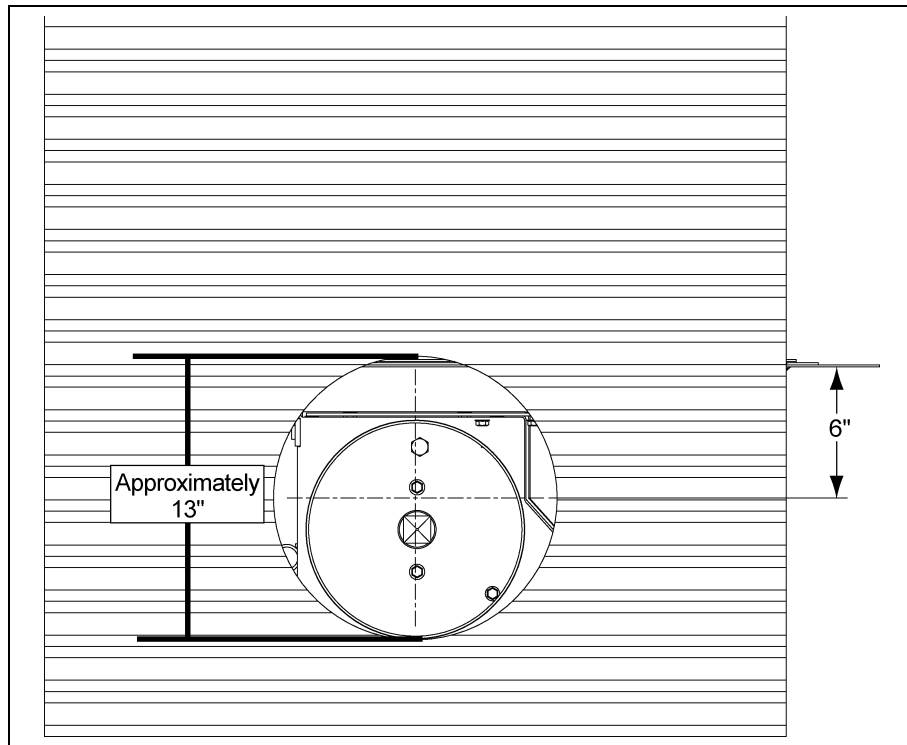
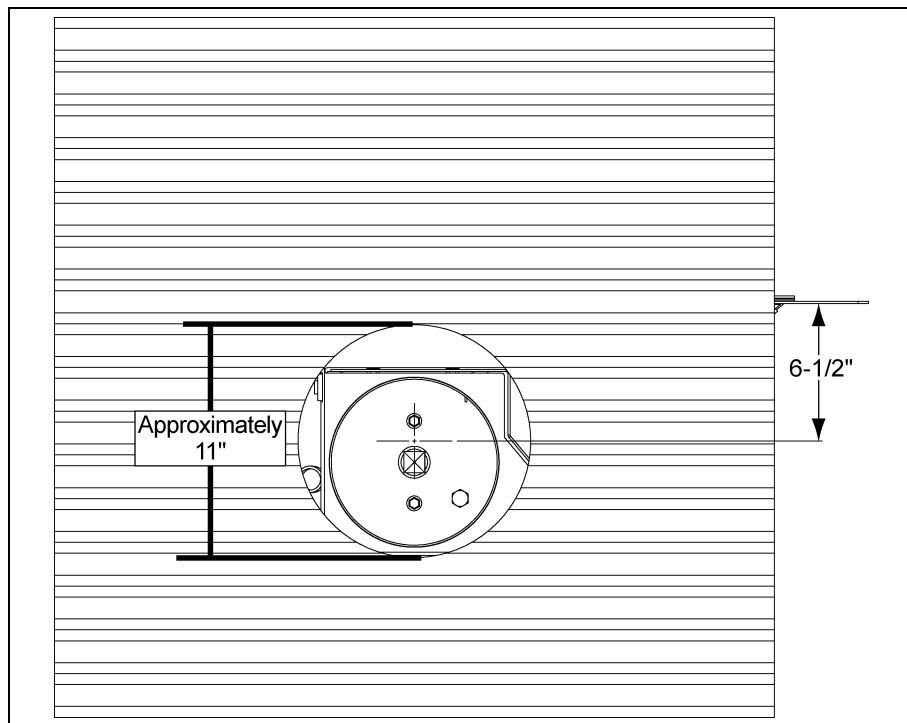
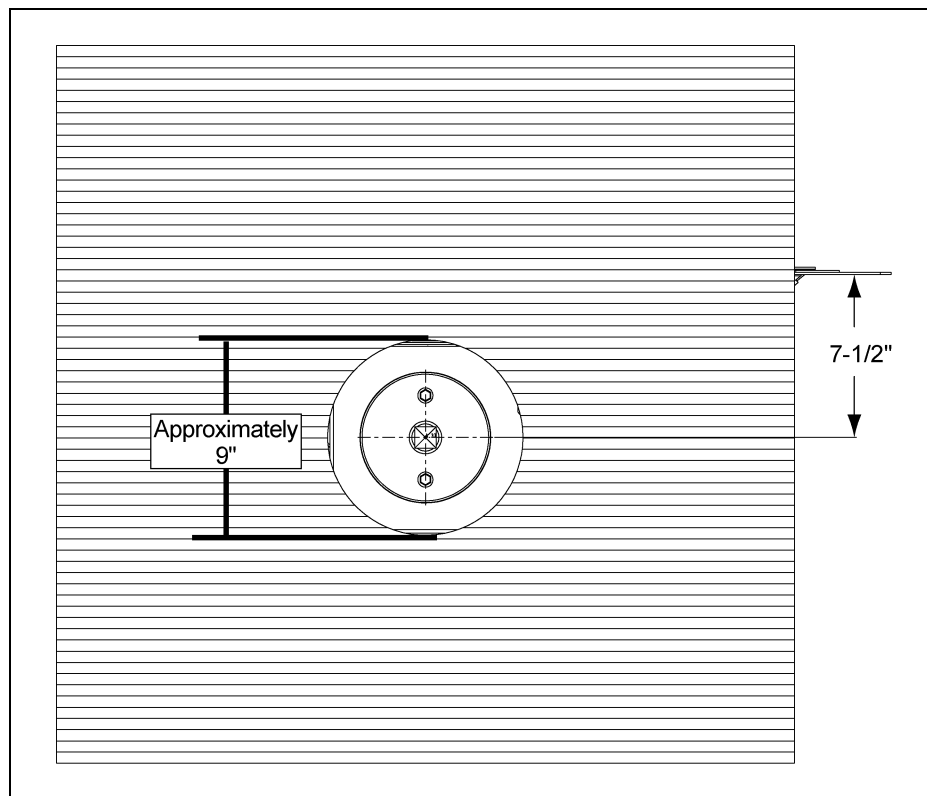

Figure 4E 10" Tube
Figure 4F 8" Tube
Figure 4G 6" Tube
1. Cut an opening in the bin wall for the unloading tube to pass through. *See Chart on Page 16* for hole information. Additional views of the holes can be found in *Figure 4E*, *Figure 4F* and *Figure 4G* on Page 16.